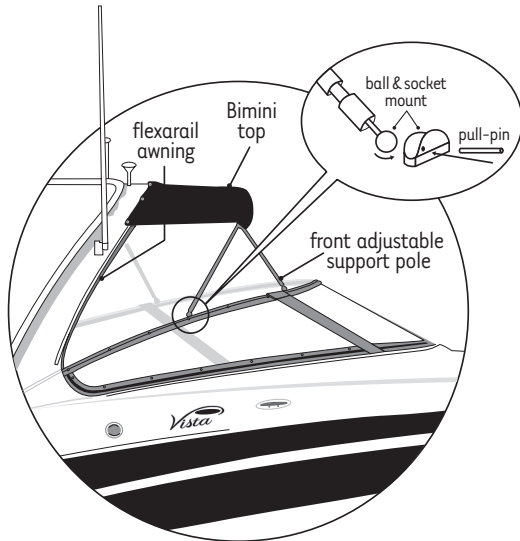

Figure O-3: Bimini Top Installation
- 1) Attach the bimini frame using the ball and socket mounts. See Figure O-3.